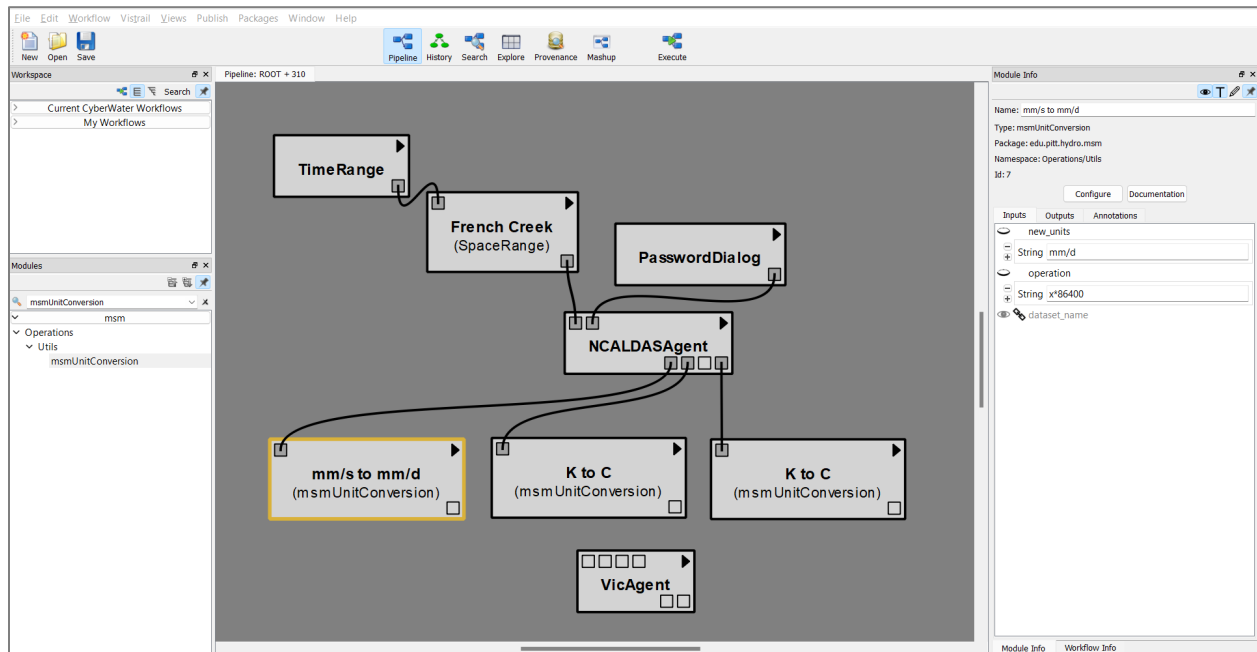
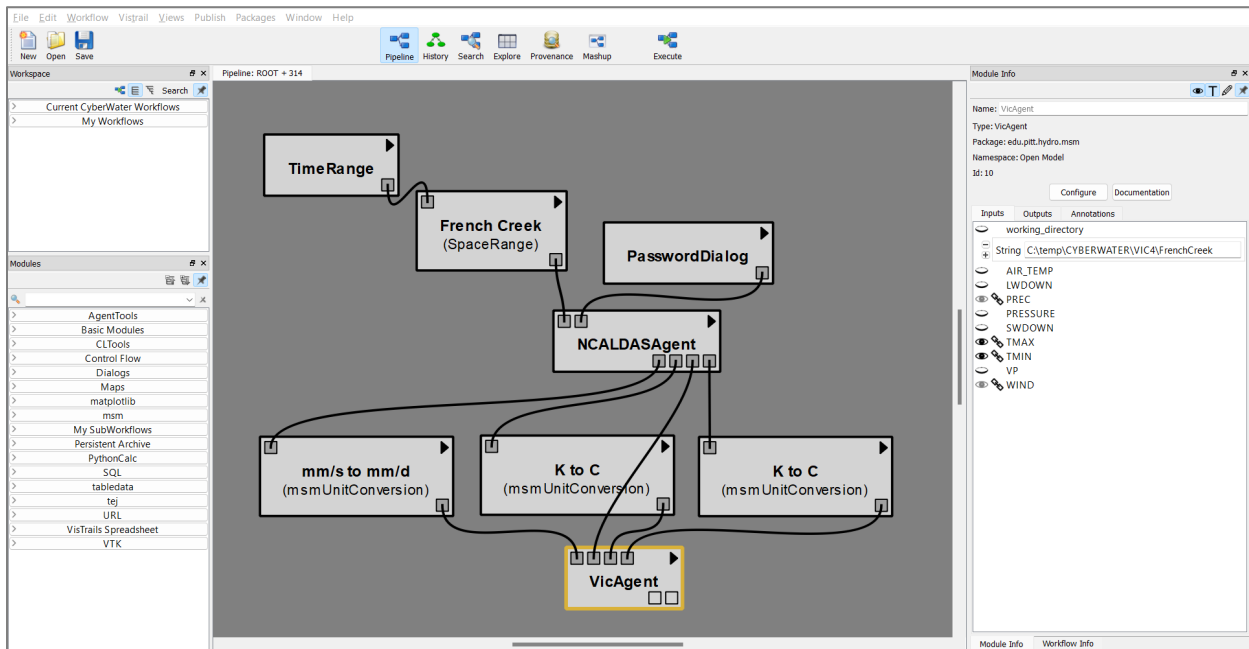

Figure 29. Adding *msmUnitConversion* modules to perform preprocessing of the data before it goes to *VICAgent*.
Figure 30. Full workflow where VICAgent is fed with Data Agent forcing data.
- *VICAgent* requires inputs to be included in specific units, depending on the individual variables. The details of each input are included in the *VICAgent* documentation available via the *Documentation* button in *VisTrails*. For this example, Temperature has to be in Celsius, and Precipitation needs to be in mm per day. To perform these transformations, the *msmUnitConversion*1 module can be used. To transform the Kelvin units from both NCALDAS datasets into Celsius, set the input ‘*operation*’ to be ‘*x-273.15*’. This ‘*operation*’ allows the user to execute simple mathematical operations using ‘*x*’ as the variable that represents the dataset given as input. Create another *msmUnitConversion* box to transform precipitation per second to daily precipitation, by setting ‘*operation*’ to ‘*x\*86400*’. This module also requires the user to indicate the new resulting units of the transformed dataset. For the first module set ‘*new\_units*’ to ‘*C*’, and for the second set ‘*new\_units*’ to ‘*mm/day*’. The new workflow is shown in Figure 29.
- Proceed to connect each forcing Data Agent with the *VICAgent* box. The resulting workflow looks as depicted in Figure 30 from Figure 29. The user is free to add (or not) a folder where all the simulation files will be stored with the *'working\_directory'* input. The default folder is located at *'CyberWater\VisTrails\vistrails\packages\msm\utils\uploaded\user\_model\_agents\VicAgent\tmp'*. It is recommended that users add their own directories especially if they want to change the default parameters, initial state, or perform further analysis to the results outside CyberWater environment. The *VicAgent* uses default parameters for soil, vegetation, snow, etc. These parameters can be changed by executing the model for the first time, then a folder named "params" will be created inside the working directory set in the *VICAgent* module. This folder includes the parameter files used by *VICAgent* for that first time execution. The user can modify these parameter files and then re-execute the model again keeping the same working directory in *VICAgent* so that it can read the modified parameter files. In addition, to ensure that the recent changes take effect in the next run, please delete the cache file from the following directory before starting the second execution: